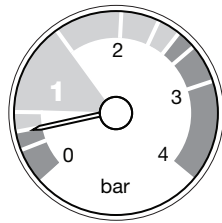

Fig. 2
2. It may be necessary to repressurise the system occasionally (Fig. 2). A filling device (the filling loop) will be fitted on the system.